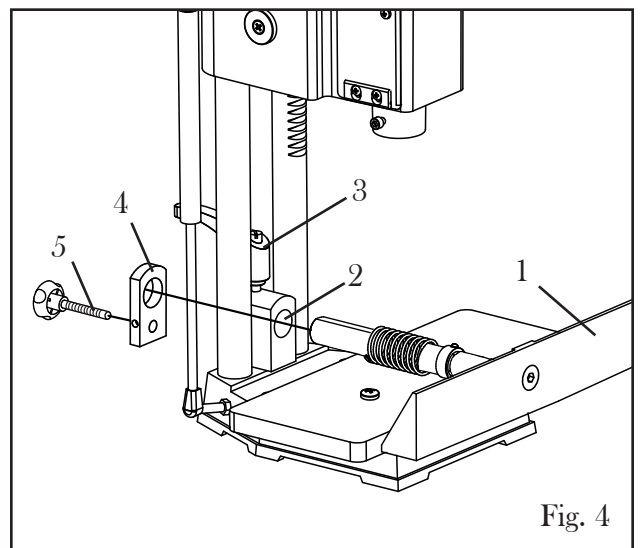

Fig. 4
STEP 4: ASSEMBLE THE FENCE (Fig. 4)
1. Insert the fence assembly (Fig. 4 - 1) through the hole on the guide block (Fig. 4 - 2). Ensure that the set screw on the top of the fence rod collar is tight.
2. Insert the fence lock handle (Fig. 4 - 3) through the top hole on the fence rod, behind the spring. Tighten the lock lever to lock the fence in position.
3. Thread the micro-adjustment knob (Fig. 4 - 5) through the bottom hole of the adjustment plate (Fig. 4 - 4). Slide the micro-adjustment plate onto the fence rod. Using the included hex wrench, tighten the set screw on the side of the adjustment plate to secure it to the fence rod. Refer to page 14 for adjusting the fence.